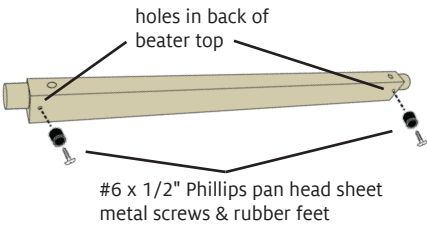

FIGURE 16: ATTACH BEATER BUMPERS
29. Attach beater bumpers: The beater top has a front and a back, with holes on the back for the bumper screws (Figure 16). Using two #6 x 1/2" Phillips pan head sheet metal screws, attach two rubber feet to the back of the beater top.